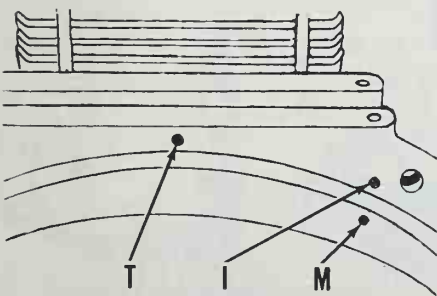

Fig. L3-6 - View of timing marks located on fly-wheel of some models.
delivery valve holder (25) and remove spring (23) and delivery valve (22) and then screw delivery valve holder (25) into pump. Move throttle to full speed position. Rotate engine in normal direction (counter-clockwise at pto) so number 1 piston is on compression stroke. Note fuel in delivery valve holder will spill out of holder. Stop rotation at moment fuel ceases to flow out of holder. Timing marks (I and M - Fig. L3-6 and L3-7) should be aligned. To advance injection timing, remove shim
Injection occurs between 28°30' and 30°. To check injection pump timing on Models 834 and L54, rotate crankshaft so injection timing mark (I - Fig. L3-6 or L3-7) is aligned with reference mark